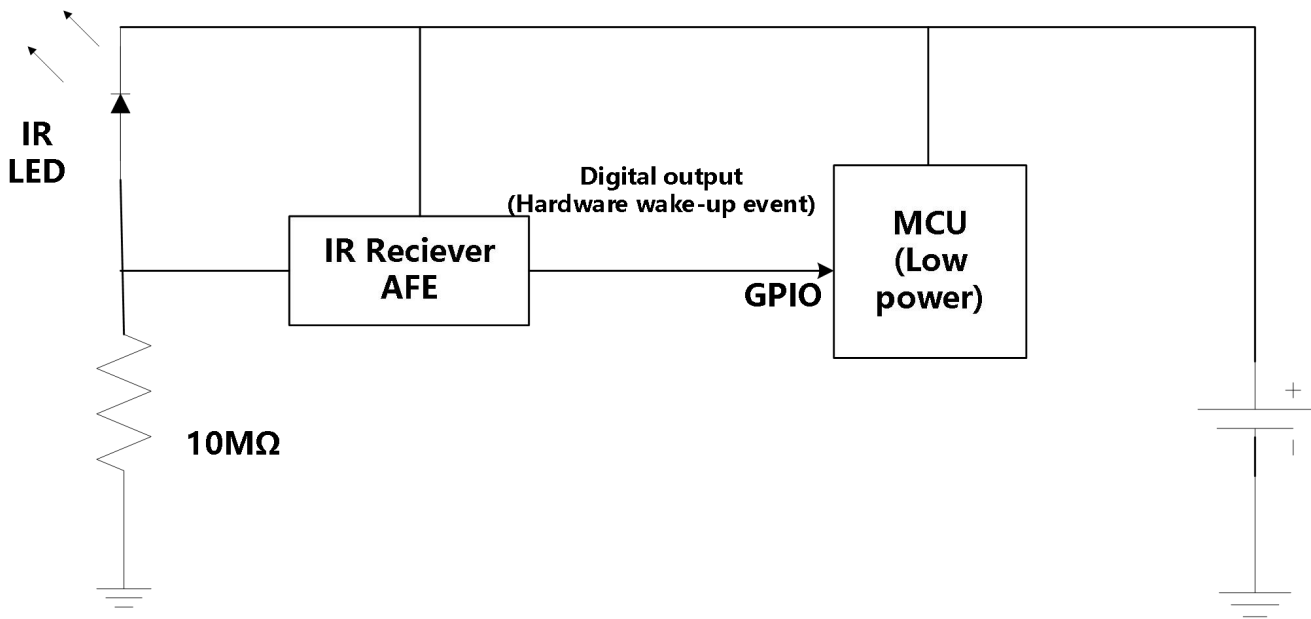

Figure 20: Coin Cell Battery Powered IR Receiver
Infrared (IR) communication is inherently immune to RF interference as long as there is a line-of-sight path between the transmitter and the receiver. It is also one of the lowest cost communication schemes. This makes it a good choice for implementing wireless communications in applications such as utility metering. A common system topology to extend battery life is to use a power efficient IR receiver analog front end (AFE) that is always on and wakes up the host only when there is valid IR signal detected as shown in Figure 20.
Figure 20 shows the IR receiver system block diagram. The host MCU is normally in the shutdown mode (during which the quiescent current is less than 1 μ A) except when data is being transferred.